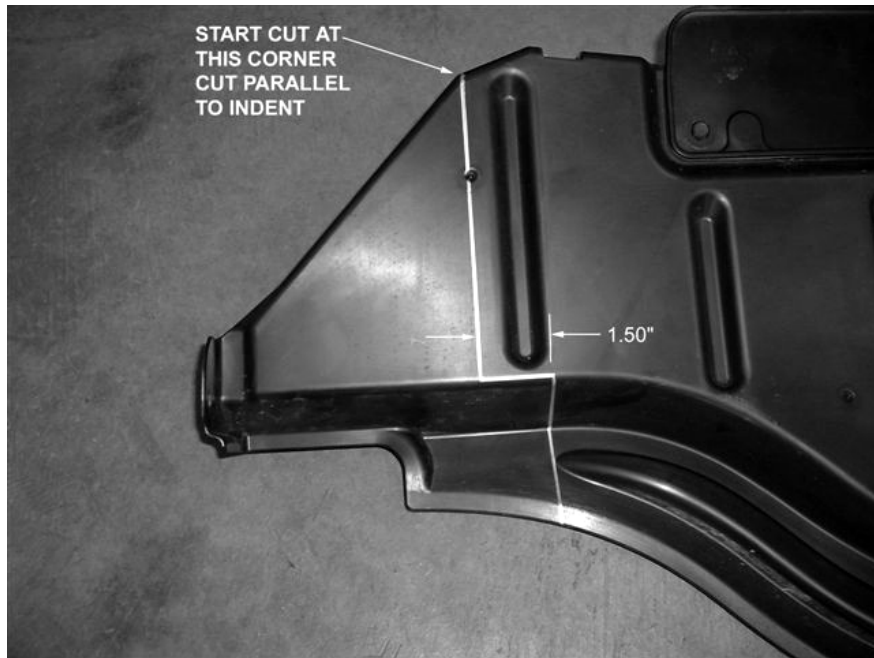

Figure 19 RH inner splash shield before trimming
23. Re-install the skid plate using the original bolts. Re-install the three(3) 6mm self tapping screws into the bottom of the center bumper section. Tighten the hardware.
24. Reinstall the bumper cap. Align the plastic pins in the front and push into place. Snap the ends back into the plastic brackets. Install the twelve(12) 6mm machine screws along the top of the cap. Insert the eight(8) plastic pin fasteners. Install a self tapping screw through each end into the fenders. Install the plastic fastener in each edge. Tighten all hardware where applicable.
26. Trim the inner fender splash shields to clear the Frame Brackets. **Figure 19**